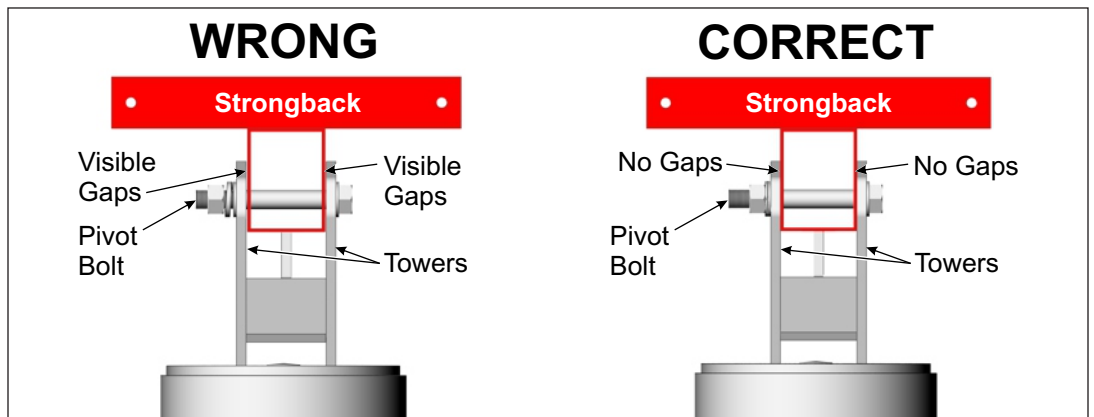

Figure 2-4: Tighten and Torque the Pivot Bolt
G. Return and tighten the Pivot Bolt. The Pivot Bolt cannot be left loose - the Mounting Sleeve Vertical Towers must be firmly clamped to the sides of the Strongback eliminating any gaps between the Vertical Towers and the Strongback. **Torque to 330-350 ft.-lbs.** (See Figure 2-4)